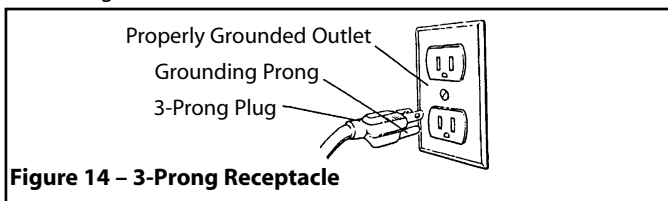

Figure 14 - 3-Prong Receptacle
This tool is equipped with an approved 3-conductor cord rated up to 150V and a 3-prong grounding type plug (see Figure 14) for your protection against shock hazards.
Grounding plug should be plugged directly into a properly installed and grounded 3-prong grounding-type receptacle, as shown (Figure 14).
- To change spindle speed, loosen motor lock knob (see Figure 14), and push the motor toward front of drill press. This will loosen the belt and permit relocating the belt to the desired pulley groove for the required spindle speed (See Figure 17).